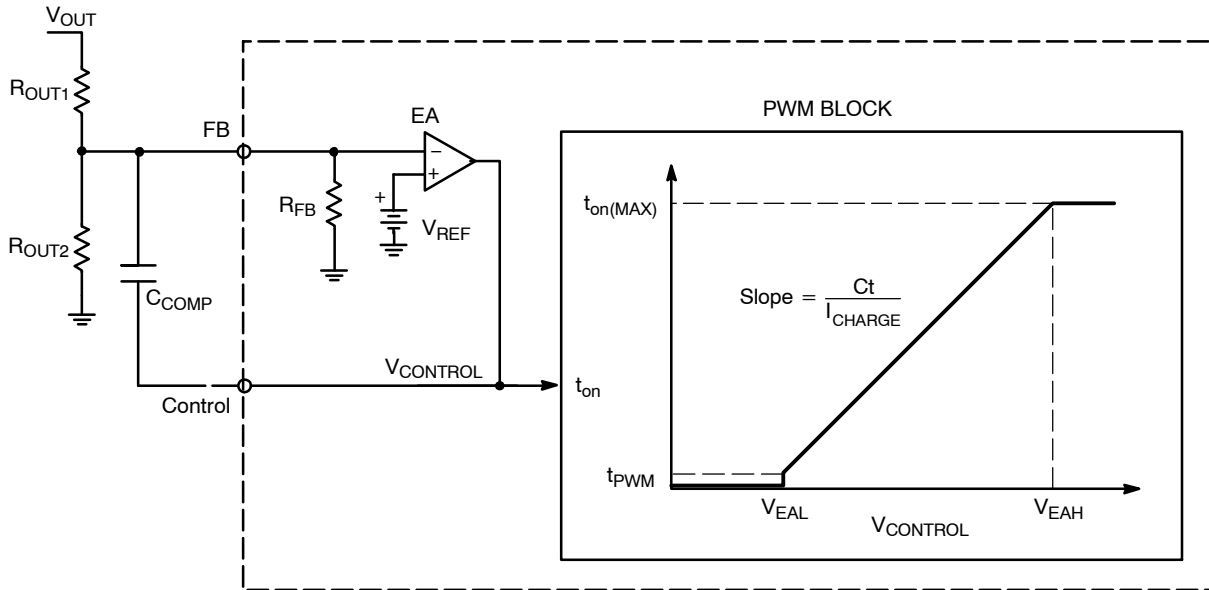

Figure 25. Error Amplifier and On Time Regulation Circuits
The NCP1607 is configured to regulate the boost output voltage based on its built in error amplifier (EA). The error amplifier’s negative terminal is pinned out to FB, the positive terminal is tied to a  $2.5 \text{ V} \pm 1.6\%$  reference, and the output is pinned out to Control (Figure 25).